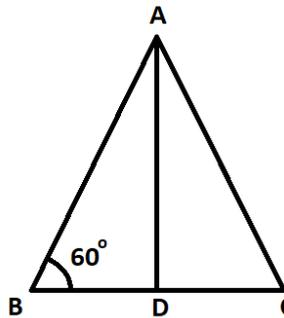

Figure Q1a: Truss.
- a) **Figure Q1a** shows the symmetrical roof truss. Span BC is of length 6m. Rafter AB is inclined at angle 60° . Find the lengths of the Rafter AB, AC and AD.